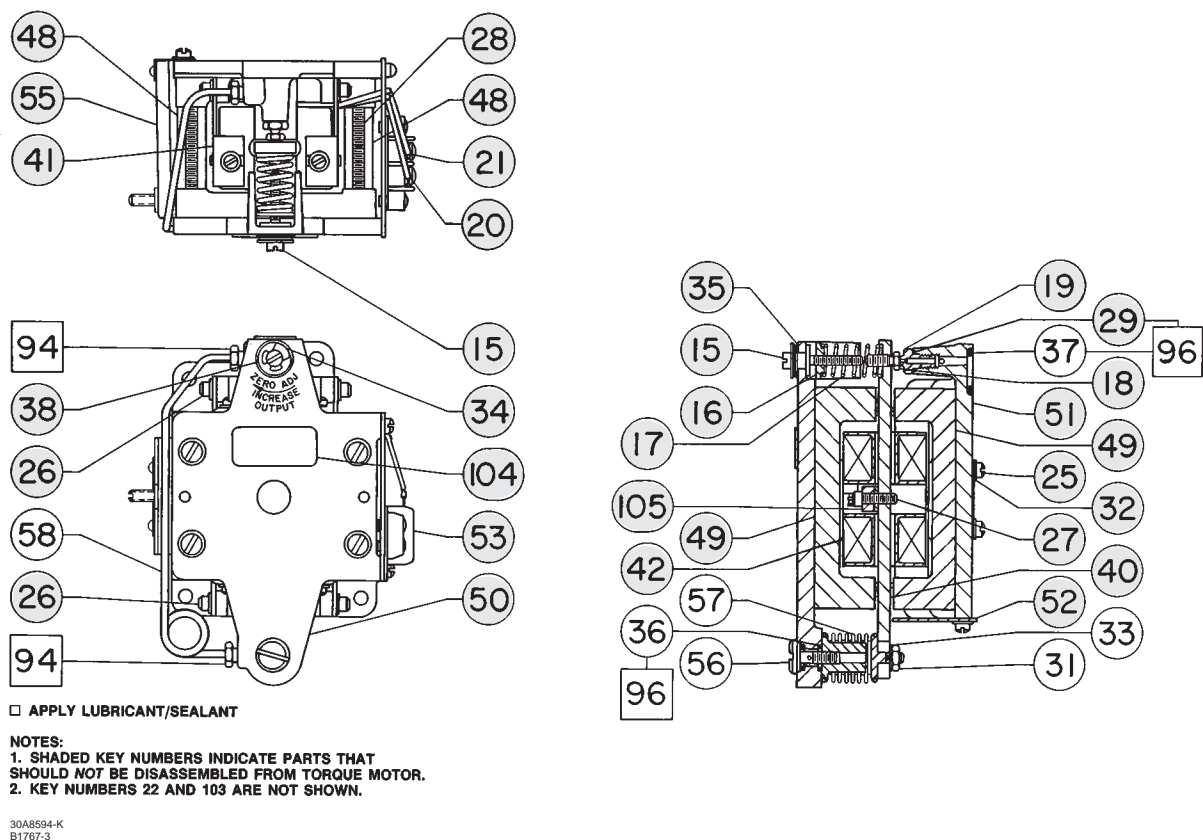

Figure 9. Torque Motor Assembly
The top pole piece plate (key 50, figure 9) of the torque motor can become twisted with respect to the bottom pole piece plate (key 51, figure 9). If this happens, return the transducer to the factory, service center, or contact your Fisher Controls sales office or sales representative.
The armature travel stop (key 52, figure 9) must be in place to prevent overstressing the armature and coil support (key 41, figure 9) due to over-travel. The clearance between the armature and travel stop should be 0.005 inches (0.13 mm).
The coil assembly (key 42, figure 9) consists of a nylon bobbin wound with wire. The coils are not attached to the armature itself, and therefore, they must not touch the armature, or armature movements will be restricted. If this problem exists, loosen the two screws that attach each coil assembly to the armature and coil support. Sight down the armature and realign the coil assemblies for clearance with the armature. Tighten the screws.
Refer to figure 9 for key number locations.
In the torque motor assembly drawing (figure 9), there are many shaded key numbers. The shading indicates that these parts should not be disassembled and that they are not available as individual items. Consequently, no part numbers are shown for these parts in the list below.
| 5 | Nameplate, Standard, SST | | Torque Motor (figure 9) | | |
2. Parts are not field repairable. The torque motor assembly should never be disassembled because the magnetism in the torque motor will decrease permanently. Shaded key numbers shown in figure 9 indicate parts that should not be disassembled.